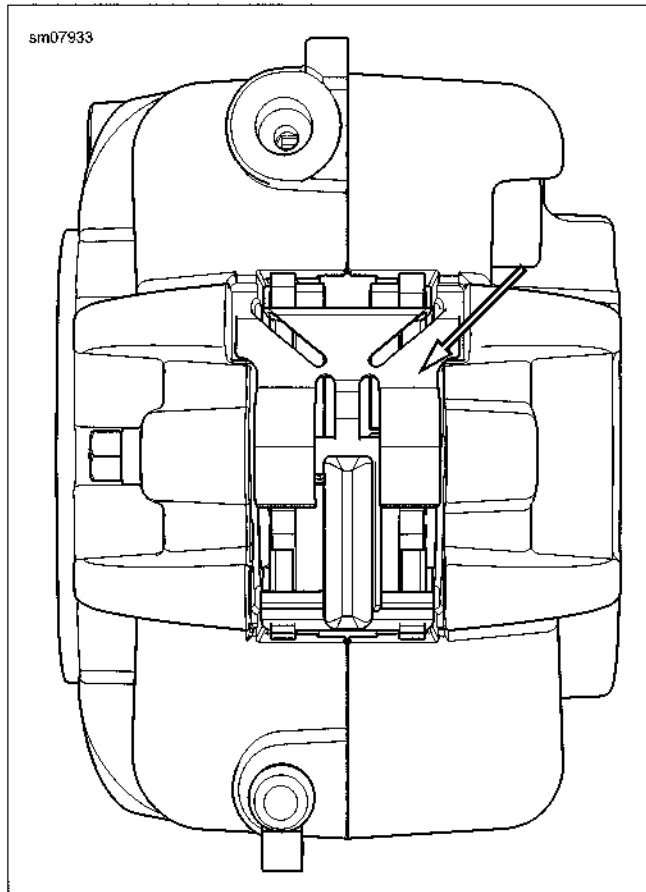

Figure 2-73. Rear Caliper Pad Spring
- a. See Figure 2-73. Install and hold pad spring.